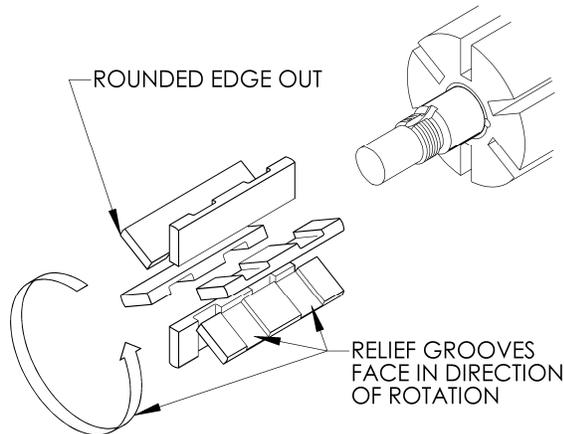

Figure 10 – Vane Installation
3. Turn the shaft by hand until a vane (14) comes to the top (12 o'clock) position of the rotor. Remove the vane.
4. Install a new vane (14), ensuring that the rounded edge is UP, and the relief grooves are facing towards the direction of rotation. See Figure 10.
5. Remove the vanes (14) and push rods (77) from the rotor and shaft assembly. Inspect for wear and damage, and replace as follows:
- a. Insert the vanes into the bottom three rotor slots with the relief grooves facing in the direction of pump rotation, and with the rounded edges outward. See Figure 10.